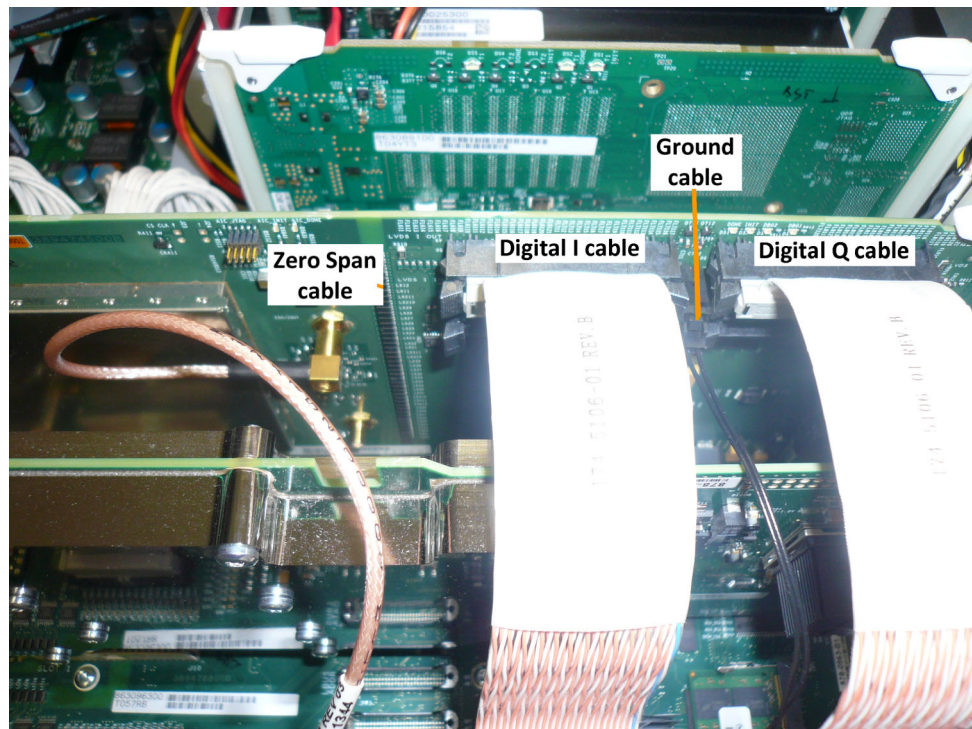

Figure 5: Connecting the output cables
2. Connect the cables from the rear-panel cover to the Option board. (See Figure 5.)